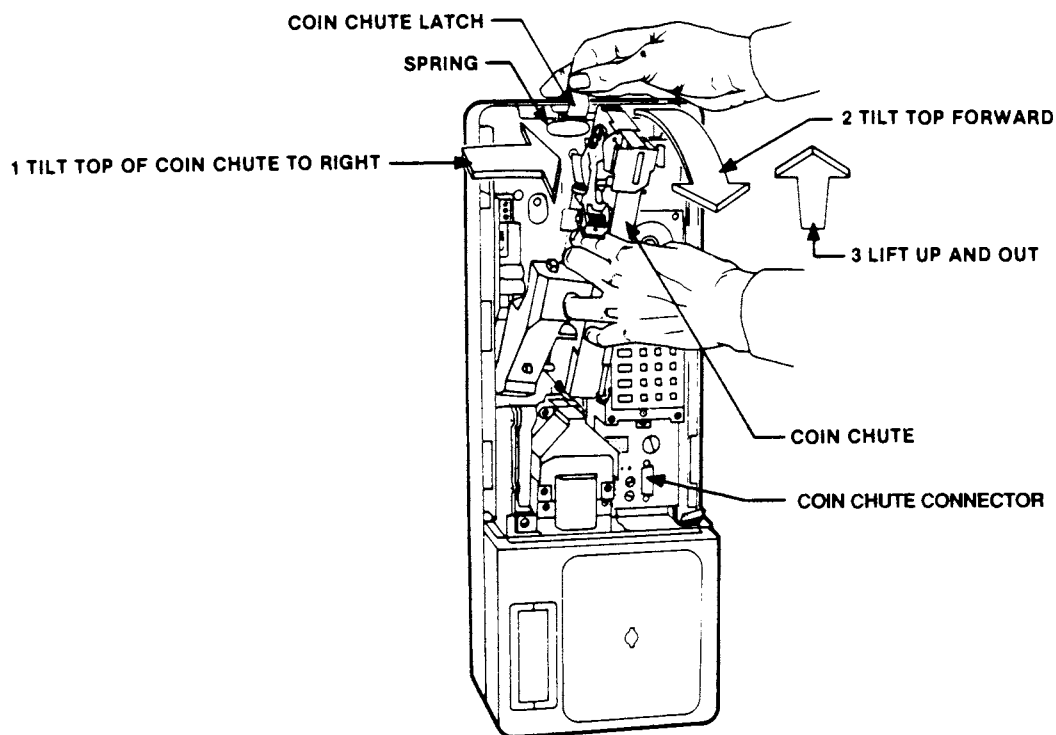

Figure 24 Coin Chute
2. Refer to Figure 24.
2. Swing the upper plate assembly of the coin chute open by pulling up and releasing the coin entrance slot (refer to Figure 24). Then, while still holding the upper plate assembly open, turn the coin chute over and shake.
3. Make sure the power supply cables are routed below the coin chute and against the back wall. Make sure that the coin slot on the coin chute is facing towards you. Close the upper plate assembly of the coin chute, and snap the coin entrance slot back (Figure 24) into place.